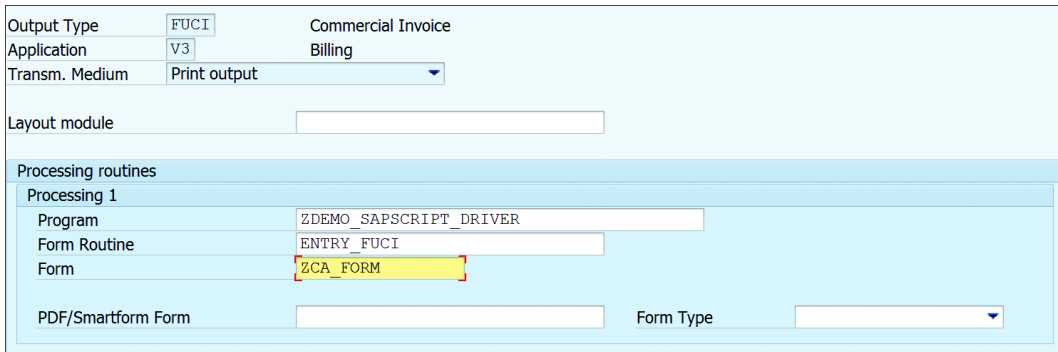

Figure 18.29 Configuring Output Type
3. Under the PROCESSING ROUTINES section, maintain the PROGRAM name, FORM ROUTINE name, and FORM name (see Figure 18.29). The form routine name should be the subroutine that acts as an entry point to the driver program. This subroutine should have two formal parameters—`return_code` and `us_screen`—as follows: